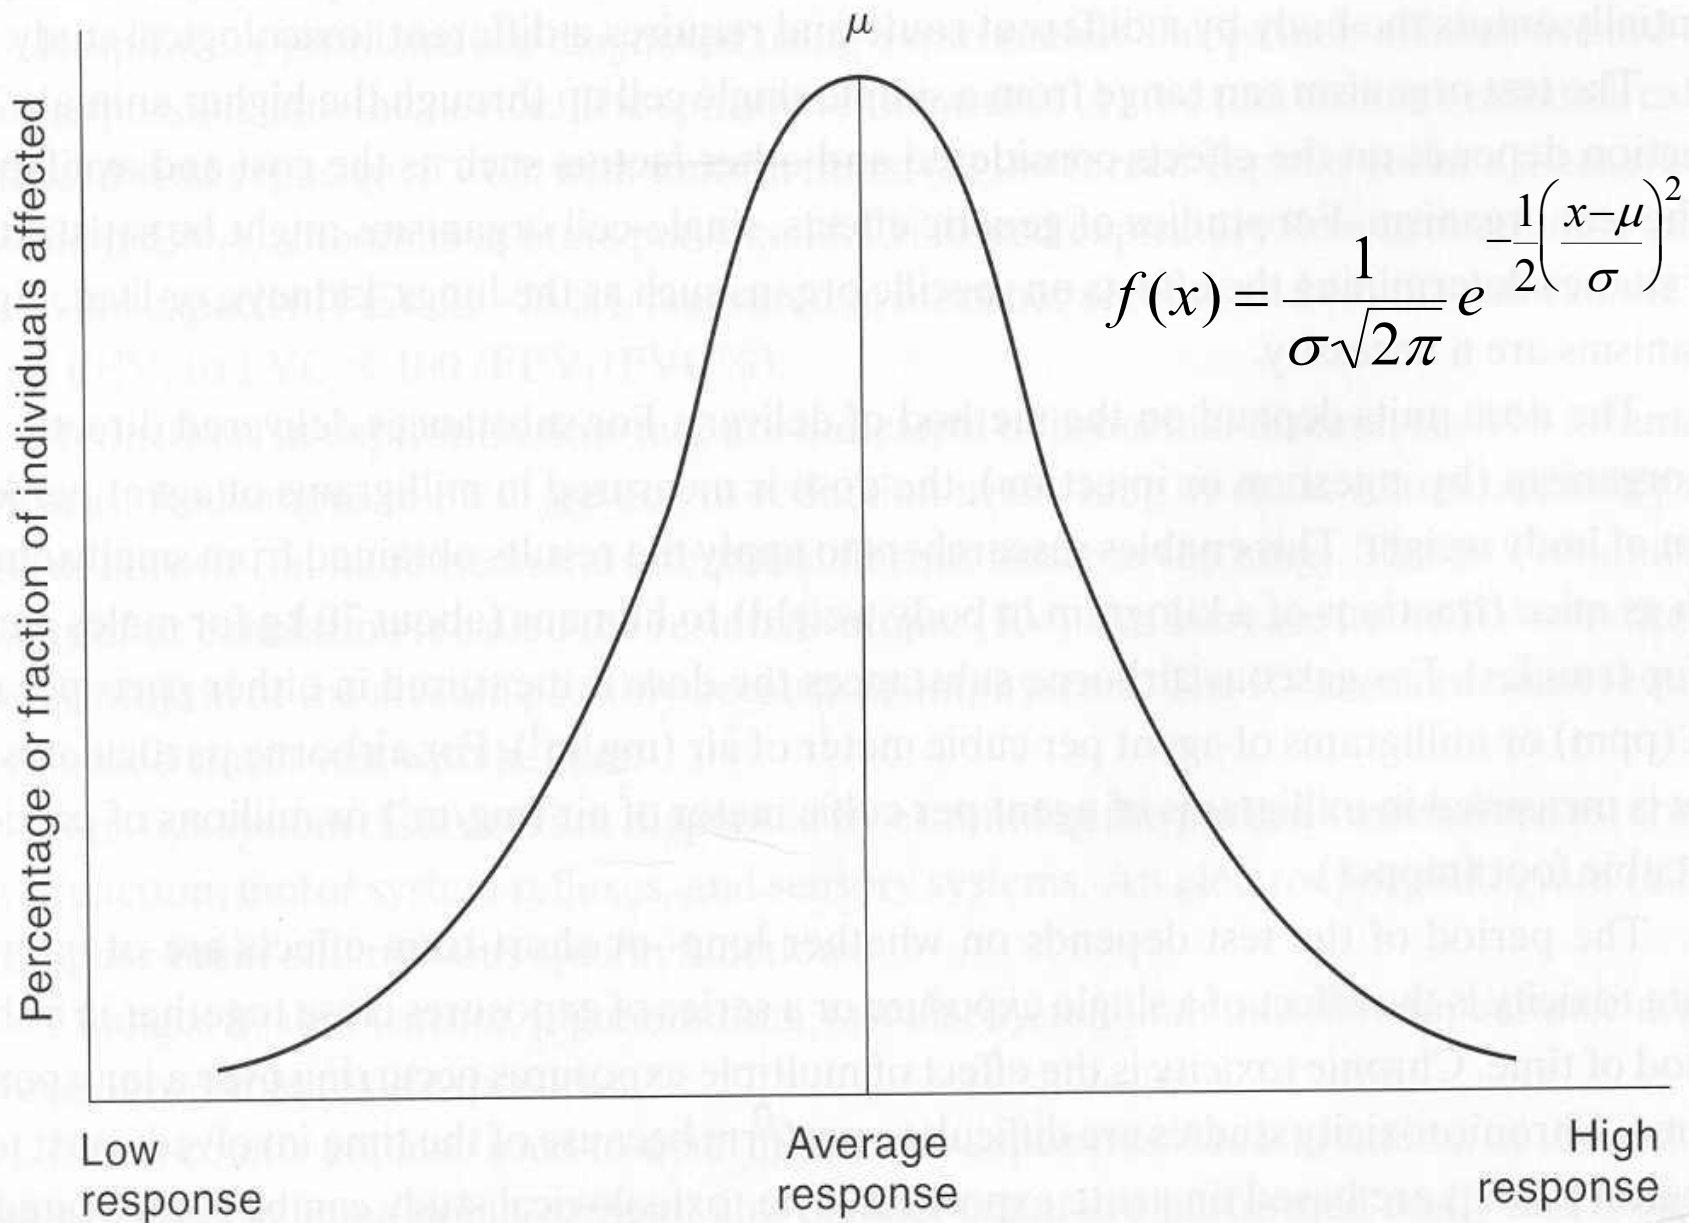

Figure 2-2 A Gaussian or normal distribution representing the biological response to exposure to a toxicant.
- ✚ Responses of a large number of people follow a normal (Gaussian) distribution, Fig. 2-2, p. 42 ▶